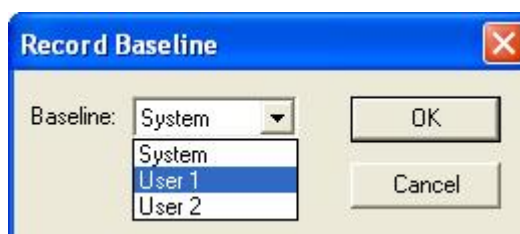

Fig. 3-2 Baseline Setup
- (1) Confirm that both the sample side and reference side of the cell holder are completely vacant. Then, click at the baseline setup command in the spectrophotometer menu on the measurement screen; a dialogue box as shown in Fig. 3-2 appears on the screen.